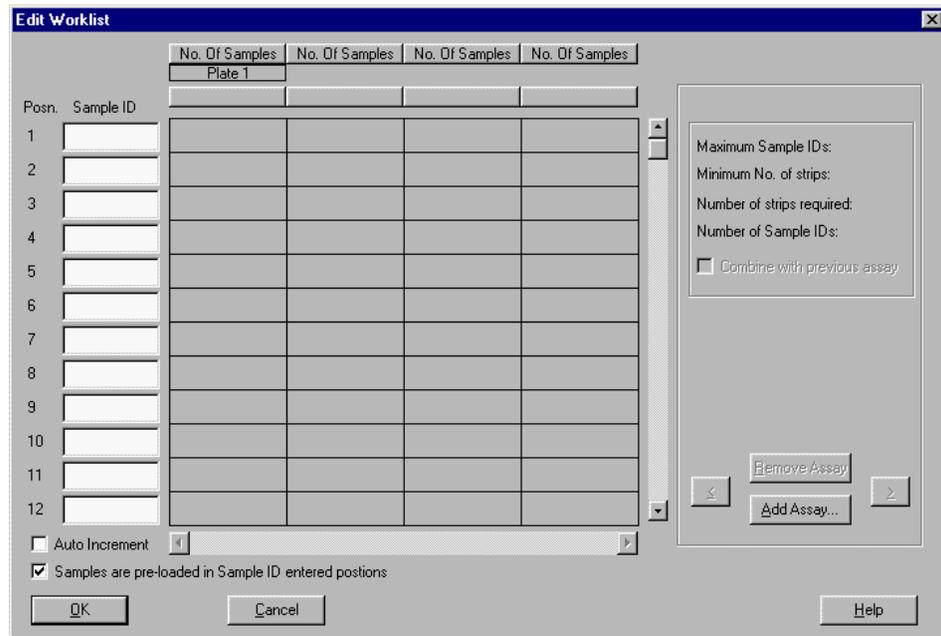

Figure 29. Edit Worklist Dialog Box
1. Select **New** then **Worklist** from the **File** menu. The Edit Worklist dialog box (Figure 29) is displayed.